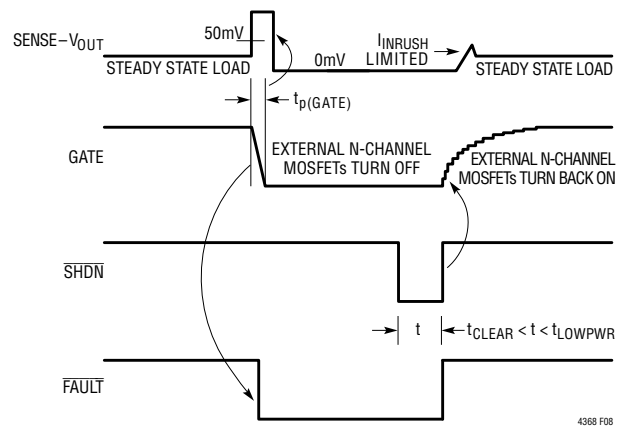

Figure 9. Forward Overcurrent Fault with RETRY Pin Grounded
- Latch off the MOSFETs by grounding the RETRY pin (no external RETRY capacitor needed). This latches the forward overcurrent fault. The external MOSFETs are kept in the off condition until the SHDN input pin is toggled low then high (t_{CLEAR} pulse width $< t_{\text{LOWPWR}}$). See Figure 9 timing diagram.